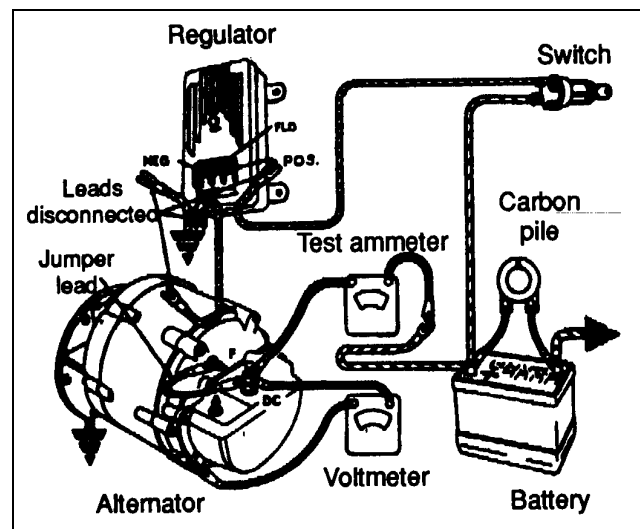

FIGURE 34: REGULATOR VOLTAGE TEST (UNDERCHARGED BATTERY) 06080
6. See figure 34 for wiring connections.